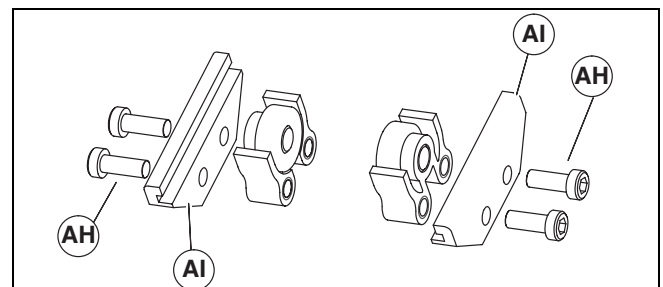

Figure 13
1. Locate return rollers. Exploded views shown in Figure 13.
2. Remove screws (Figure 13, item AH) and clips (AI) from roller assembly.